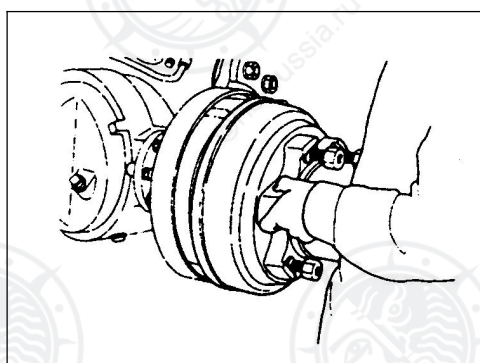

Fig.2-4-5
- 4) Remove brake drum (refer to Fig.2-4-5) ;